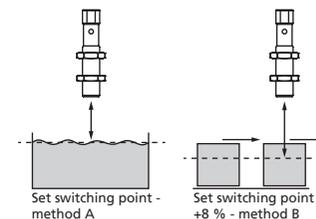

Fig. 3: Setting the switching point for different directions of movement of the object
■ In the »Set switching point - method A« Teach-in procedure the actual distance to the object is taught to the sensor as the switching point. If the object moves towards the sensor (e.g. with level control) then the taught distance is the level at which the sensor has to switch the output, see Fig. 3.
■ If the object to be scanned moves into the detection zone from the side, the »Set switching point +8 % - method B« Teach-in procedure should be used. In this way the switching distance is set 8 % further than the actual measured distance to the object. This ensures a reliable switching behavior even if the height of the objects varies slightly, see Fig. 3.